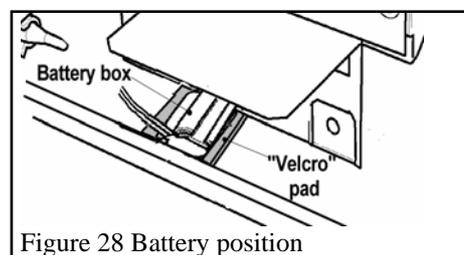

Figure 28 Battery position
- Fit the four 1.5 V batteries. Place the battery holder on the “Velcro” pad in front of the battery shield. See figure 28.